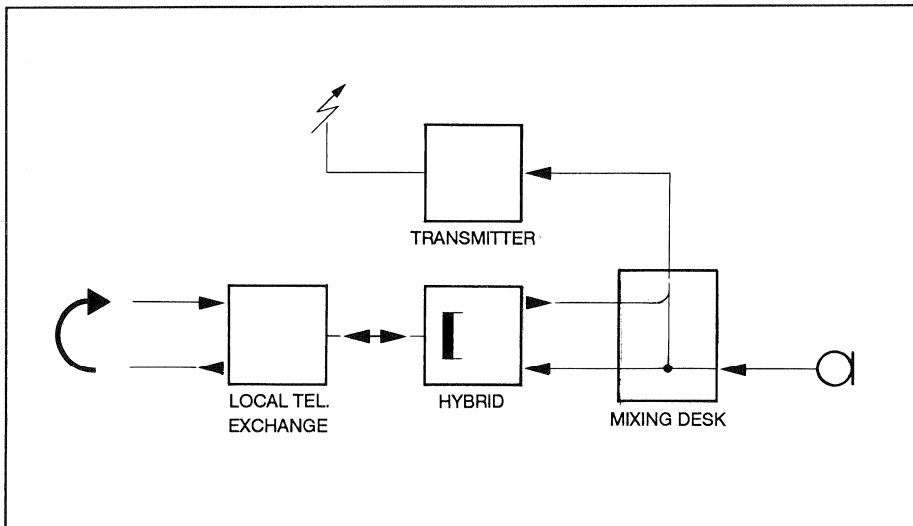

Fig. 5c Echoes from the telephone line
- Coloration of the moderator's voice by line echo (see Fig. 5c).